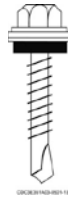

Figure 2-7. Self-drilling screw.
*Type A* sheet metal screws have a sharp point and resemble a wood screw except that the threads are coarser and extend to the head of the screw. They're recommended for joining and fastening light gauges of sheet metal. *Type Z* sheet metal screws have blunt points and the same threads as type A; they're recommended for joining and fastening light- or heavy-gauge metal. *Self-tapping* sheet metal screws are recommended for heavier gauge sheet metal, since they form threads while being screwed into the proper size hole. This sheet metal screw is also available with a hex head for use with socket wrenches. *Self-drilling* sheet metal screws (fig. 2-7) are designed with a tip that can drill through light-gauge sheet metal and light structural building materials. They normally have a hexagonal head and can be driven with portable electric drills. Self-drilling sheet metal screws work well in light-gauge materials, but they tend to break when driven into heavier materials. Also note that the self-drilling tip on these is not made of high-speed steel like a twist drill and is good for drilling only one hole.